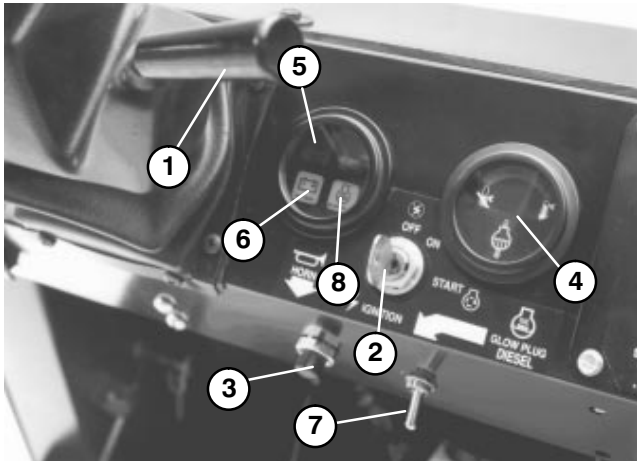

Figure 18
Tilt Steering Lever (Fig. 18) – Lever on right side of console allows steering wheel to be adjusted for operator comfort.
Coolant Temperature Gauge (Fig. 18) – Registers coolant temperature in engine. Operates only when ignition switch is in On position.
Horn Button (Fig. 18) – Pressing button activates horn.
Engine Low Oil Pressure Light (Fig. 18) – The light glows and the engine will shut down if the oil pressure drops below safe levels. Turn the key off and check the oil level. If the oil level was low, but adding oil does not cause the light to go out within 4 seconds, do not operate the vehicle and contact your local Toro distributor for assistance.
Glow Plug Switch and Indicator (Fig. 18) — Use to preheat engine cylinders prior to cold engine starting procedures — cylinders are preheated automatically during warm engine start operation. For cold starting, push switch lever upward and hold while watching indicator. Indicator will glow orange when the glow plugs are activated. Length of time necessary to preheat cylinders should be determined by atmospheric temperature; refer to Starting /Stopping Engine.
Ignition Switch (Fig. 18) –The ignition switch, used to start and stop the engine, has three positions: OFF, ON / Preheat and START. Rotate key clockwise — START position — to engage starter motor. Release key when
Charge Indicator (Fig. 18) – Illuminates when battery is being discharged. If light illuminates during operation, stop vehicle, turn Off engine and check for possible causes, such as alternator belt.
4. When temperature is below 15°C (60°F), push glow plug switch upward to ON position (Fig. 18) and hold for suggested interval.